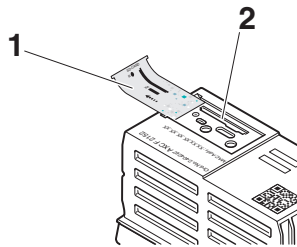
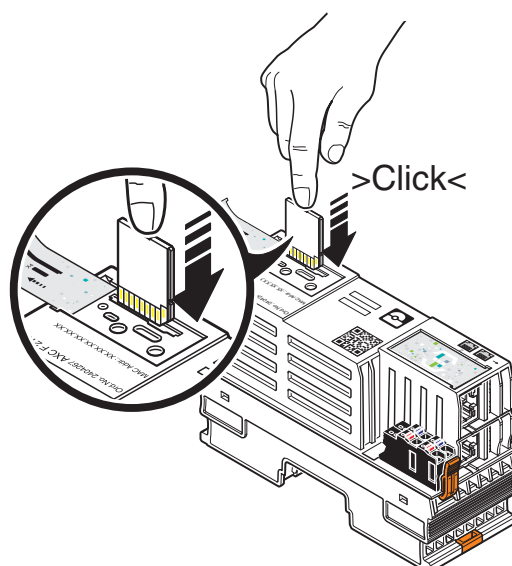

Figure 4-7 Removing the marking field
Figure 4-8 Inserting the SD card
- Remove the upper marking field of the controller (pos. 1 in Figure 4-7).
- Gently push the SD card into the SD card holder (pos. 2 in Figure 4-7) until it engages with a click in the SD card holder (see Figure 4-8, "Click").